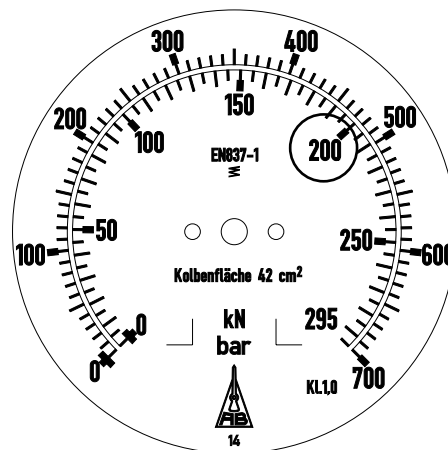

Fig. A5.03
3. Build up pressure with the pump lever until the predetermined force is shown on the pressure gauge; see static and prestressing plan. Monitor free path on the hold-down device and pressure gauge. (Fig. A5.03)